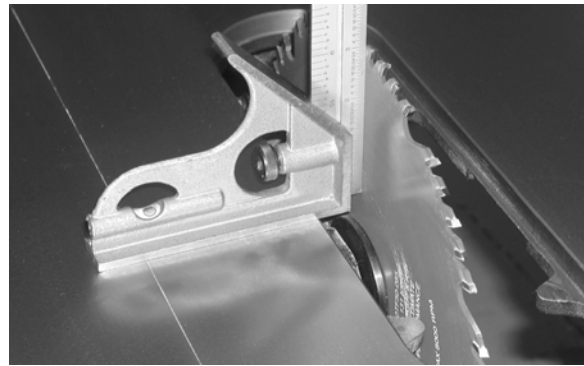

Figure 44
4. Place a square on the table and check to see that the blade is at a 45° or 90° angle to the table, see Figure 44. Make sure square is not touching a blade tooth.
7. Tighten the *lock nut* (A) and recheck the blade with a square (Figure 44).
8. Check the accuracy of the *pointer* (E) on the angle scale and adjust, if necessary. Loosen *set screw* (F) to change the pointer position.